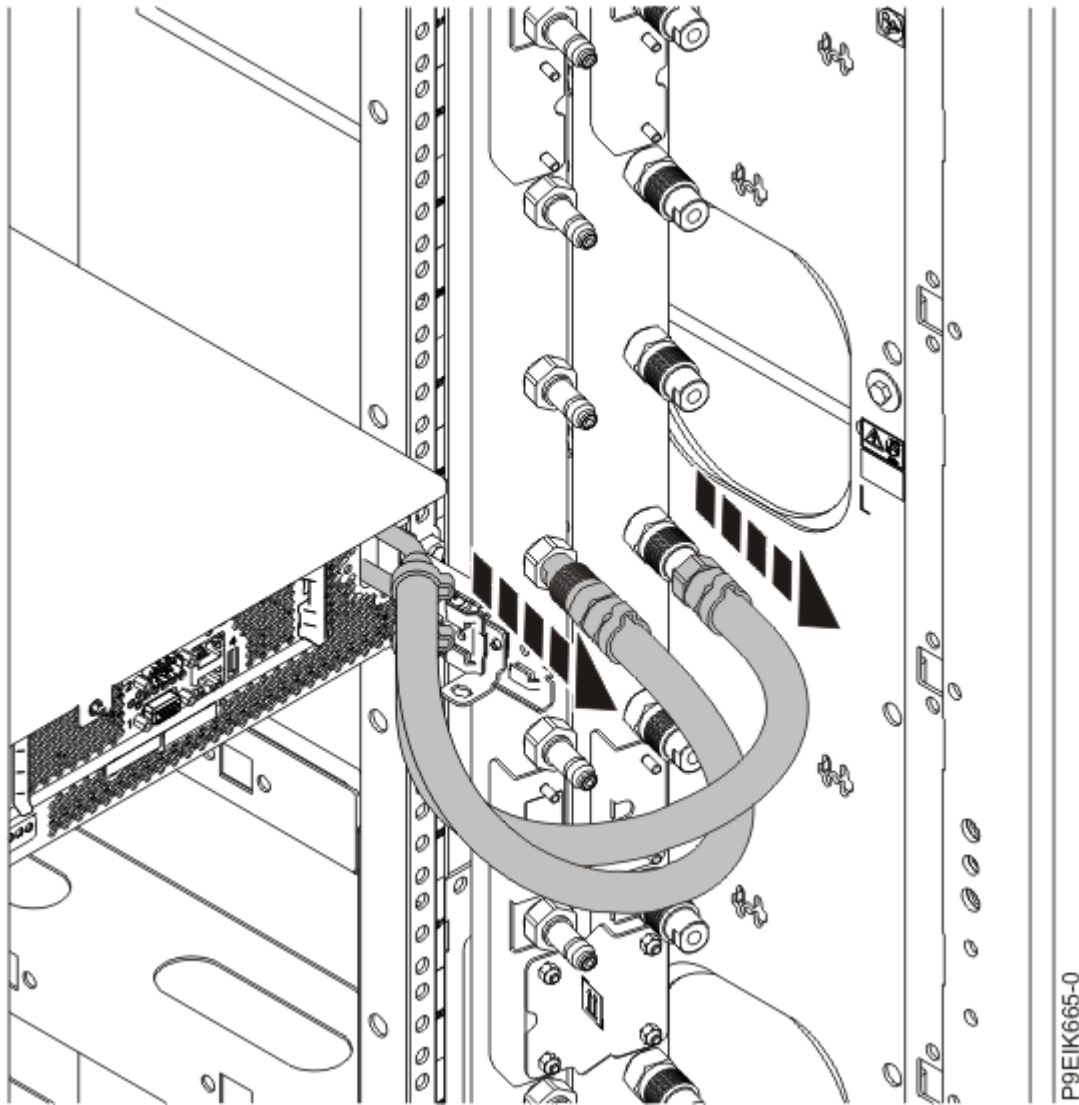

Figure 14. Disconnecting the water hoses
2. For a water-cooled system, label and disconnect the water hoses at the manifold. Pull the coupling toward you to disconnect the water hoses as shown in Figure 14 on page 28.